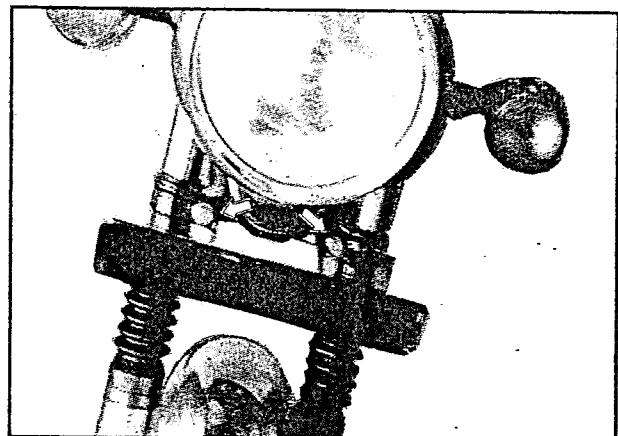

Fig 6.37
- Retighten the front fork lower bracket bolts to specified torque (fig 6.37)